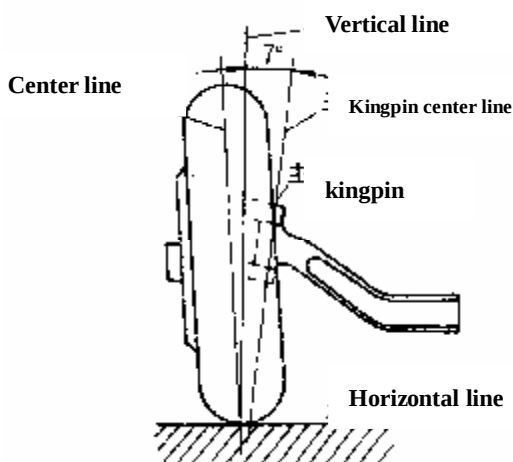

Figure 7-5-11 Kingpin inclination
② kingpin inclination (figure 7-5-11)